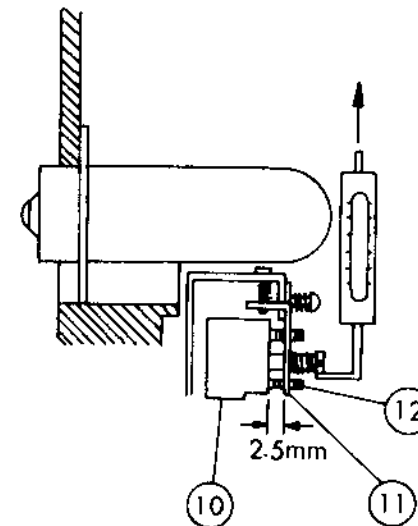

Fig. 51
1. Adjust with ⑨, so that the extension allowance of ⑩ is 0.2 mm to the ⑤ side from the imaginary feeding line obtained by connecting the assy shaft flywheel (P. 71) ⑥ to ③ with a straight line.
2. Adjust with ⑭, so that the center (gap) of ⑩ falls on the center line of ⑤. (Refer to Fig. 51)
3. Adjust with ⑫ x 3 pcs., so that the space between ⑩ and ⑪ is approximately 2.5 mm.
4. Measurement of spring tension of ⑬
Method: — Refer to Fig. 51, and measure by using the rod spring beam (C043).